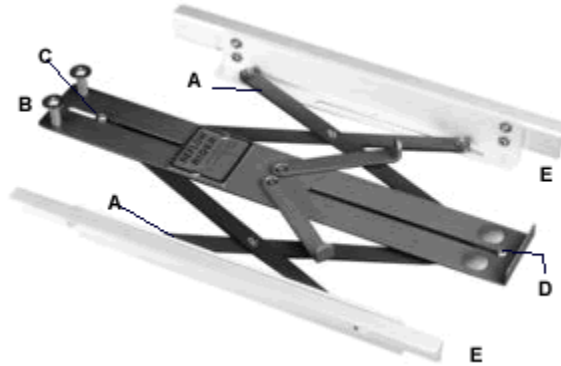

Figure 2
- Referring to Figure 2, pivot the two profiler support arms (A) out, perpendicular to the support deck.
- Center your thermal profiler on the arms, with its back end resting against stop (B) at the end of the support deck.
- Leave screw (C) snug, but not tight, at the *outer* end of its slot, as shown in Figure 2
- Loosen screw (D) a turn and pull the rails (E) apart until the width, measured across the vertical side rails, is slightly less than the space between the pin rails. The rails should move easily when screw (D) is loosened. The other six screws in the scissor arms are locked. Do not attempt to tighten them.
- Retighten screw (D) to lock the rails at that width.